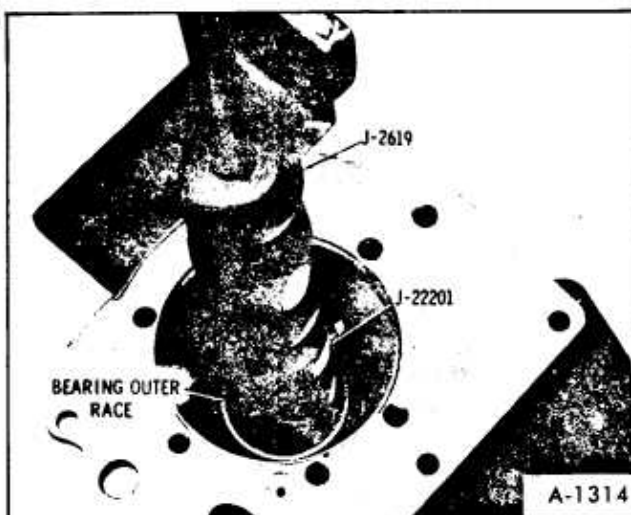

Figure 26-Removing Pinion Front Bearing Outer Race
13. Install Tool J-22201 on Slide Hammer J-2619. Position Tool J-22201 as shown in Figure 26, and tighten screw. Remove pinion front bearing outer race.